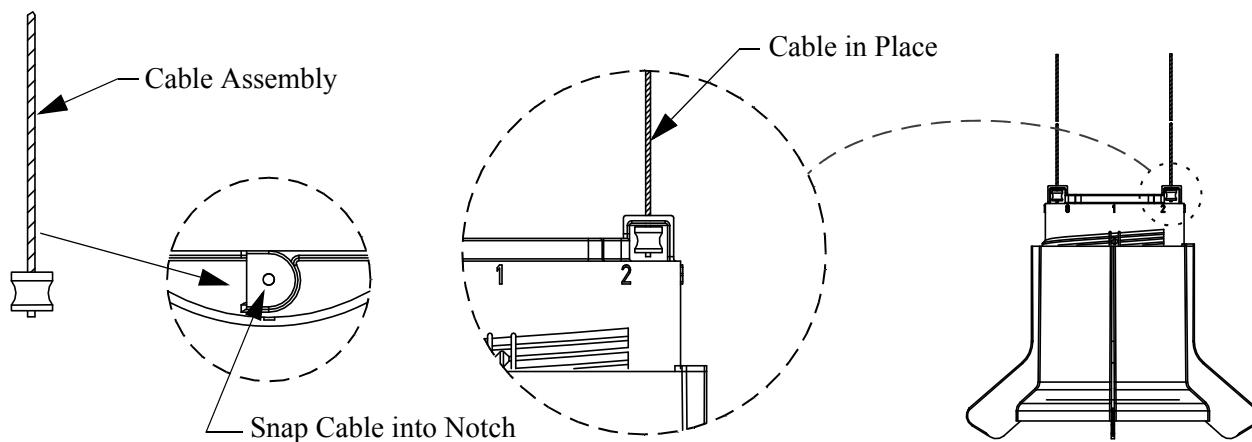

Figure 19.Cable Installation
7. Install two cables at each Feed Level Tube as shown, **See Figure 19.** The cable assembly should snap into the top of the Feed Level Cone and needs to be pulled up tight against the inside.